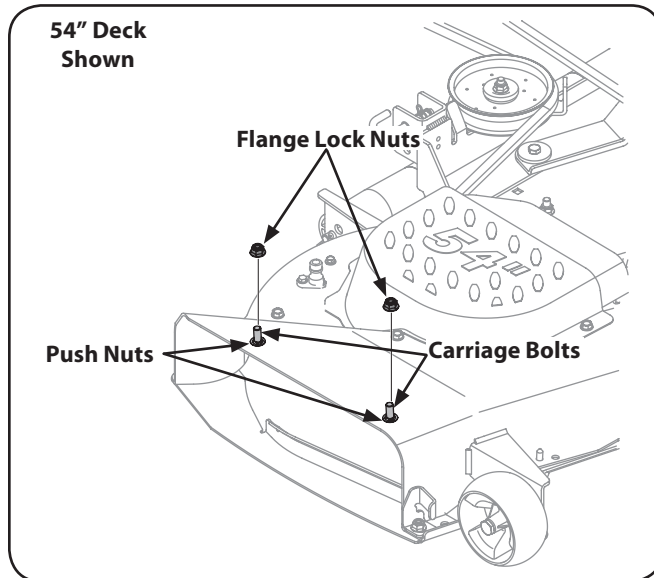

Figure 3-6
2. Remove the flange lock nuts from the deck. Do not remove the push nuts or carriage bolts, leaving them in place will aid in installing the chute. See Figure 3-6.